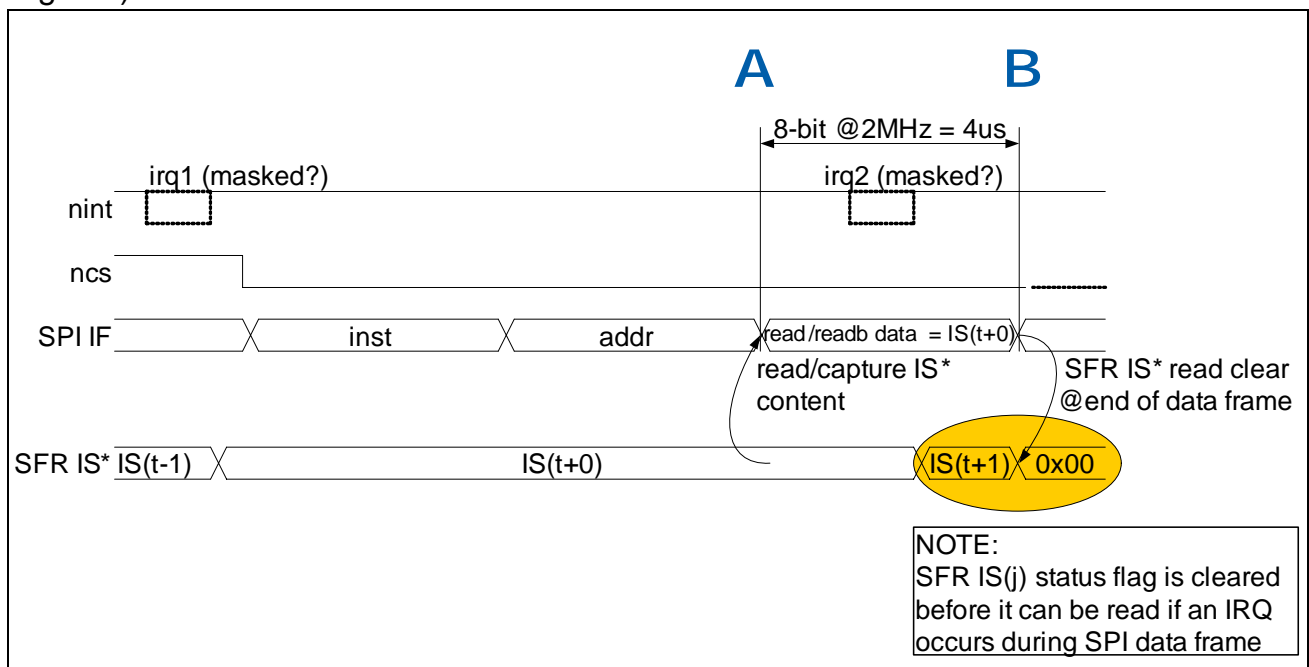

Figure 27 ISx Readout Set Clear Collision
- the current Interrupt Status (ISx) register 8-bit content is **latched** into the SPI shift register after the last address bit is clocked-in (**point A** in **Figure 27**)
- the IS register is then **cleared** after last IS register bit is clocked out of the SPI interface (**point B** in **Figure 27**)